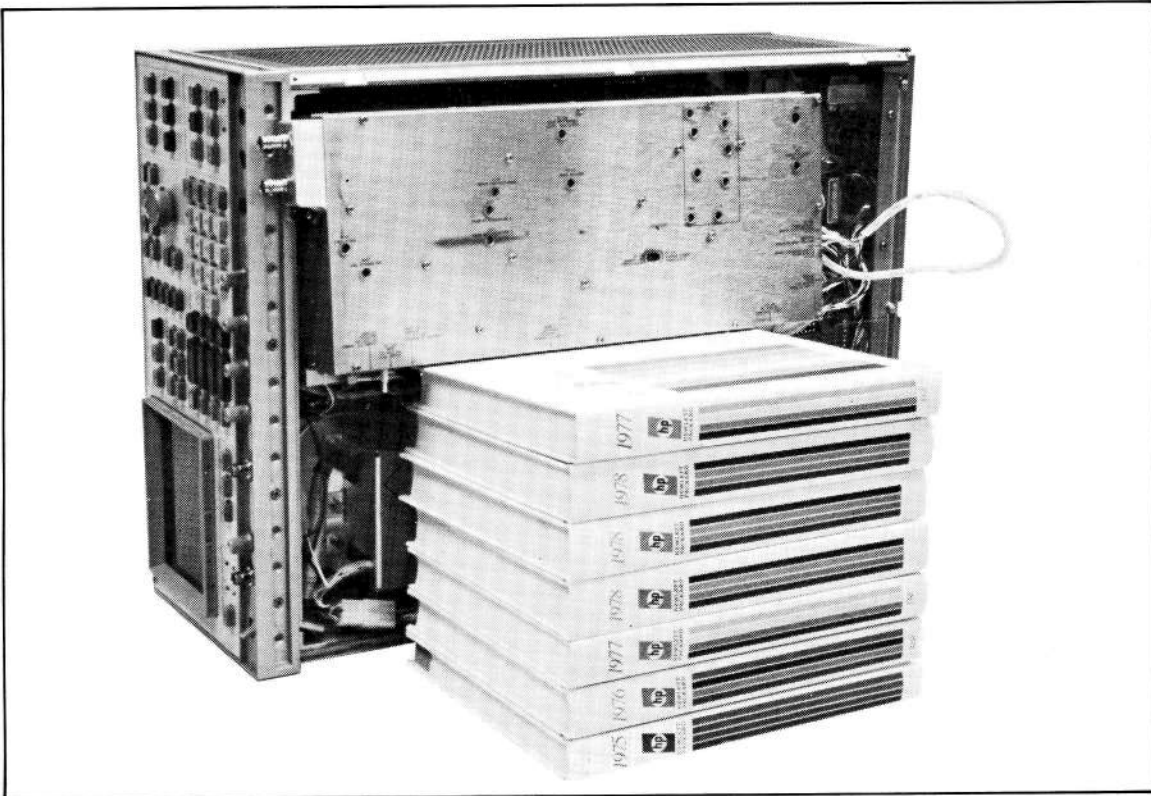

Figure 5-36. Input/Conversion Box Positioning For Adjustment
- a. Being careful not to harm any of the cables connected to the Input/Conversion Section, turn the Input box on its side so that the bottom (Input Section, A1 board) is accessible (see Figure 5-36.).